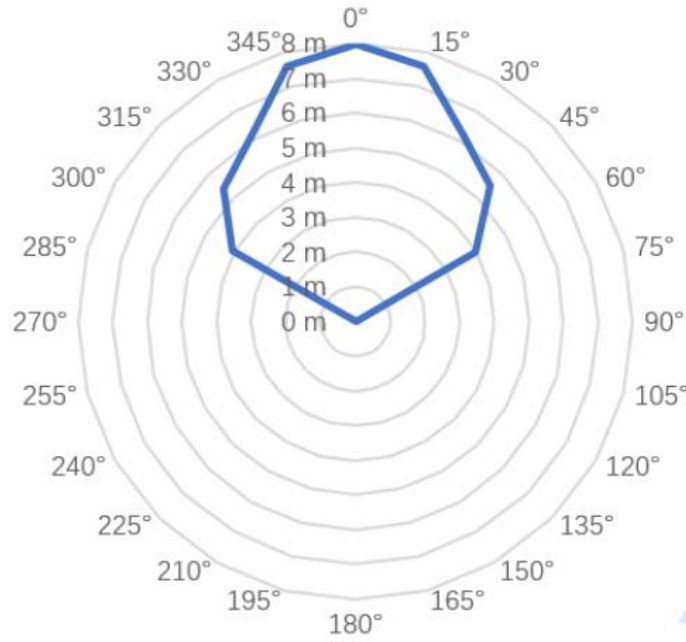

Figure 10 Schematic diagram of tracking range of wall mounting
**Note:** It is recommended that the radar installation azimuth is shown in Figure 10 (a) or (b), positive and negative directions are azimuth angles, up and down directions are pitch angles, and the radar antenna plane normal direction is  $0^\circ$ .